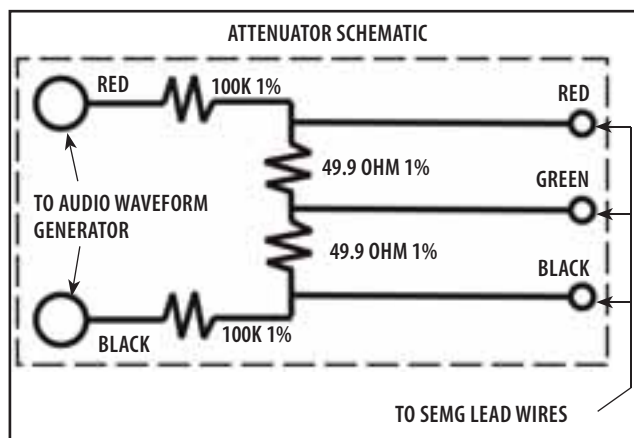

FIGURE 5.34
1. It will be necessary to build an Attenuator for this test. See Figure 5.34 for schematic of the required Attenuator. The Attenuator must be contained in shielded enclosure. Input connection and output connections should be separated from each other as far as possible within the confines of the shielded enclosure.